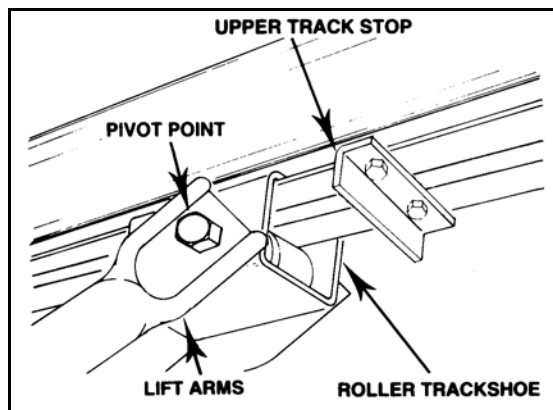

Figure 3.14
8. Attach upper lift arms to roller track shoe with one 3/4" x 6-1/2" bolt and locknut. Do not over-tighten. Tighten snug only; this bolt acts as a pivot point (Figure 3.14).